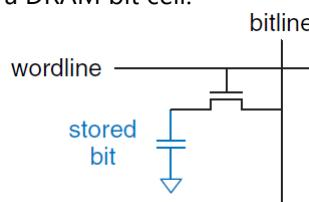

Figure 5.48 DRAM bit cell
**Dynamic RAM (DRAM, pronounced "dee-ram")** stores a bit as the presence or absence of charge on a capacitor. Figure 5.48 shows a DRAM bit cell.